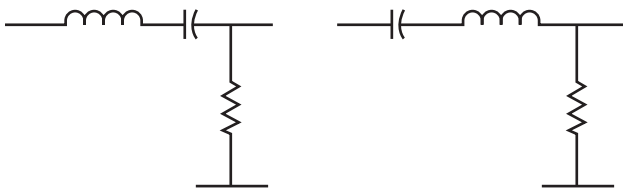

FIGURE 7.2
You can combine a capacitor and an inductor in series with a resistor to form voltage divider circuits, such as the two circuits shown in Figure 7.2. A circuit that contains resistance (R), inductance (L), and capacitance (C) is referred to as an RLC circuit. Although the order of the capacitor and inductor differs in the two circuits shown in Figure 7.2, they have the same effect on electrical signals.
When you apply an AC signal to the circuits in Figure 7.2, both the inductor's and the capacitor's reactance value depends on the frequency.
You can calculate the impedance of the RLC circuits shown in Figure 7.2 by using the following formula:
Calculate the net reactance and impedance for an RLC series circuit, such as those shown in Figure 7.2, with the following values:
**3** Calculate the net reactance and impedance for an RLC series circuit, such as those shown in Figure 7.2, using the following values:
**4** Calculate the net reactance and impedance for an RLC series circuit, such as those shown in Figure 7.2, using the values in the following questions.